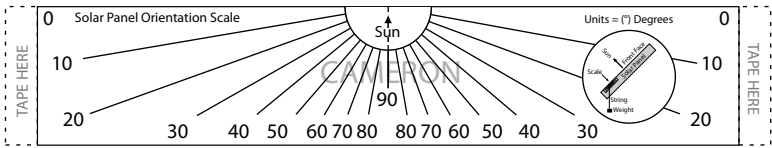

Figure 2.4—Solar panel orientation scale sample (use full-size scales on inside back cover to attach to a solar panel)
- a. Make a photocopy of the Solar Panel Orientation Scales printed on the inside back cover of this manual) and cut out one of the scales. Trim as needed to align the top edge of the scale with the front face of the solar panel. Tape the scale to the side of the solar panel as shown in Figure 2.4.